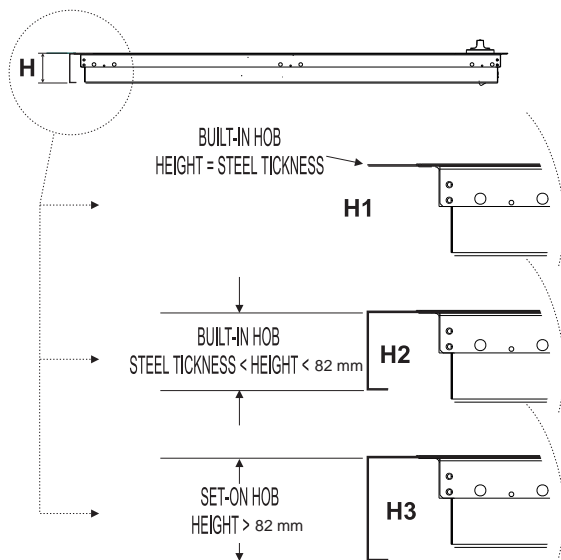
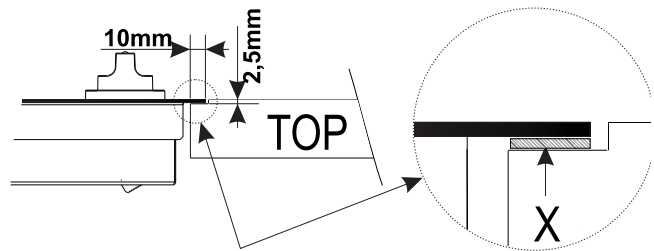

Fig.4
fig.5
- **Class 1:** all models whose edges are higher than/equal to 82 mm (see following page, fig. 4, detail H3).
- **Class 3:** all models whose edges are lower than/equal to 82 mm (see following page, fig. 4, detail H1 and H2).
1- Built-in hobs to be slotted in (Class 3 - see figure 4, detail H1). In this case it is necessary to make a hole in the worktop whose measurements match those of the hob. The measurement at the side should be reduced by 2 cm so as to ensure that 1 cm of the perimeter of the hob overlaps with and rests on top of the supporting surface. To slot in the hob flush with the worktop, the cut-out on this supporting surface must be lowered (see figure 5), so that both the edge of the hob and the seal "X" under it can be positioned there. Before fitting the hob to the worktop, position the seal provided along the perimeter of the hob, as illustrated in figure 5.
2-Built-in hobs (Class 3) with edges lower than 82 mm (see figure 4, detail H2). To install this type of hob, a hole large enough to accommodate the whole lower casing of the appliance must be made on the worktop intended to be under the hob. Remember to leave a gap of at least 1 cm between the lower casing and the worktop around the whole perimeter of the appliance (the underside of the casing can, however, touch the surface below it).
3-Sit-on hobs (Class 1) with edges higher than 82 mm (see figure 4, detail H3). In this case, the lower casing of the hob does not protrude further than the edge of the appliance. Even when the hob is resting on the worktop, it will suffice to leave space for the gas supply tube and electricity supply cable.